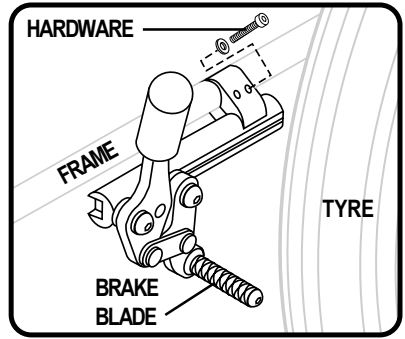

Figure 22. Park Brake Adjustment
3. Loosen the hardware that fastens the park brake to the frame. See figure 22.